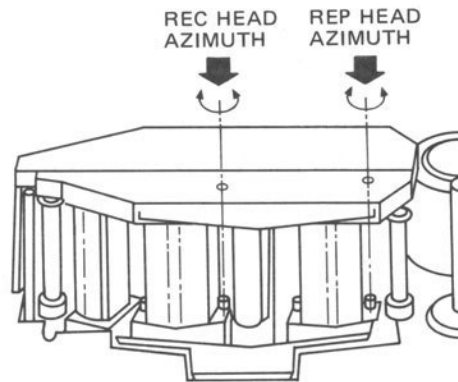

Figure 4-17 Record and Reproduce Azimuth Adjustment Screws
Refer to Figure 4-17 for the location and Reproduce Azimuth Adjustment screws.
- (5) Adjust the Reproduce head azimuth adjustment screw (Figure 4-17) until the two signals displayed on the oscilloscope are in phase.